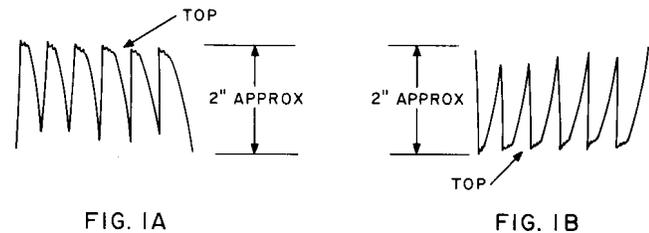

Fig. 1—Core Characteristics of Saturable Reactors
- Adjust the sweep frequency so as to have six partial sine waves present on the oscilloscope as indicated in Fig. 1. The trace may appear as either one of the two figures shown. The height of the trace shall be approximately 2 inches. If all waves are adjusted to approximately equal height, the cores of the L1 through L6 saturable reactors are balanced and the trouble is elsewhere (check filter). If they are not of equal height, it is an indication of a defective saturable reactor or an open BAL 1 through BAL 12 balancing potentiometer. Badly distorted waves may indicate a defective power diode.
- If checking for a defective saturable reactor, the adjustment of any of the BAL potentiometers affects the lower position (opposite TOP Fig. 1) of two partial sine waves. If the height of any wave cannot be adjusted, it is an indication of a
- Determine which balancing potentiometer affects the height of the longest half wave viewed on the oscilloscope (longest is defined as the longest line from TOP as designated in Fig. 1).